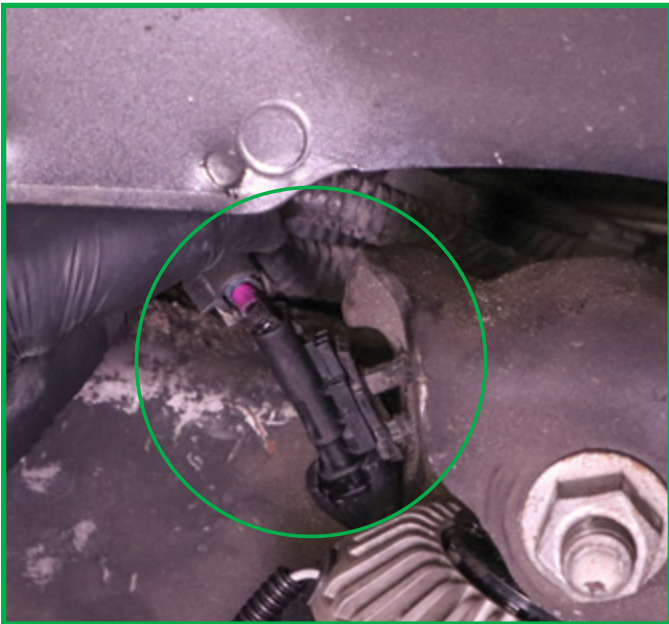

FIGURE 14
4. Install the electrical connection and clip to vehicle. Install the air hose connection. (Figures 14, 15)